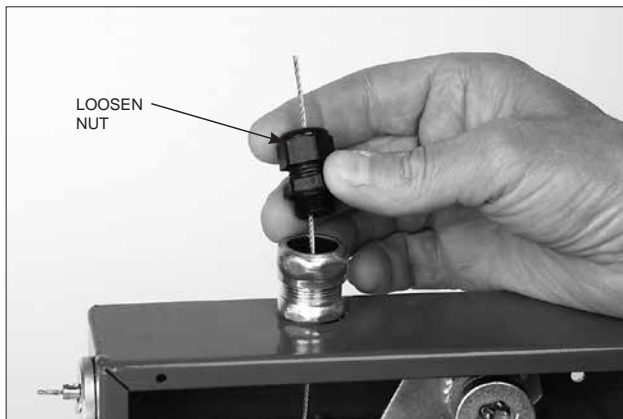

FIGURE 4-44
6. Loosen the nut on the strain relief and thread the wire rope through the strain relief. See Figure 4-44.